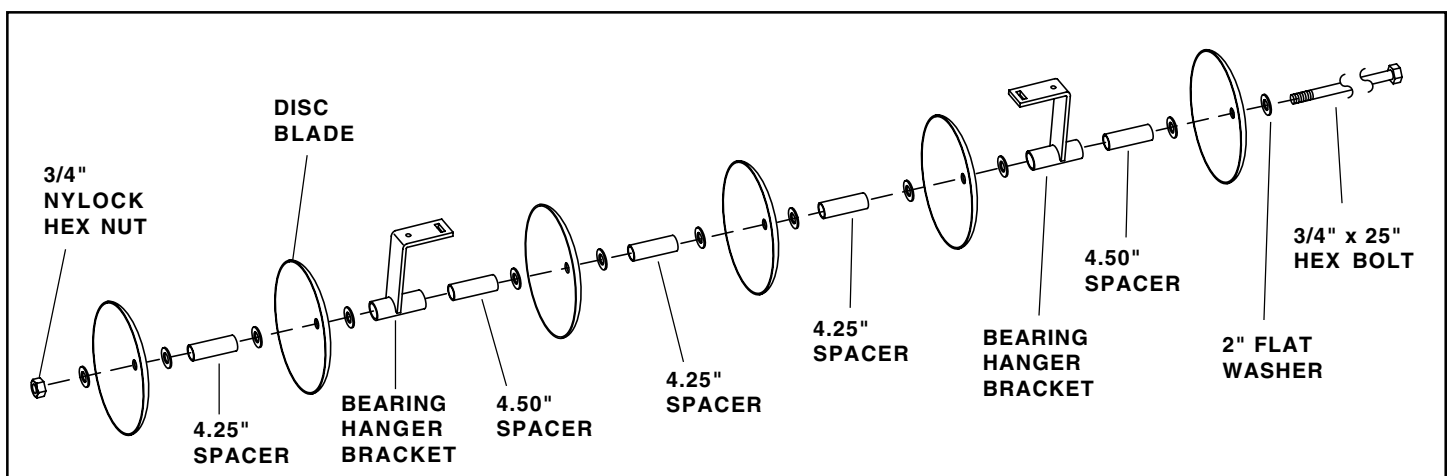

FIGURE 1
1. Refer to figure 1. Assemble the following onto each 3/4" x 25" hex bolt: six disc blades, two bearing hanger brackets, twelve 2" flat washers, two 4.50" spacers, three 4.25" spacers and one 3/4" Nylock hex nut. The 4.50" spacers fit inside the bearing hanger brackets. Be sure all parts are assembled in the same order as shown. Be sure the bearing hanger brackets face toward each other and that the disc blades all face the same direction. **Tighten** the Nylock hex nut.